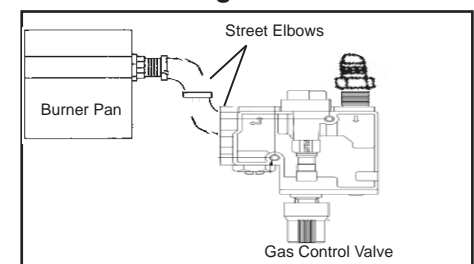

Figure 5
- E. Connect the two 3/8" Street Elbows (Part #16). Screw the 3/8" threads of the first elbow into the outlet of the second. Apply pipe compound to the male threads of the elbow and attach it to the control valve outlet. (See Figure 5)
- H. The valve assembly can be rotated to horizontal, and to allow it to rest on the fireplace floor. Simply rotate the entire valve assembly by turning the 3/8" Street Elbow (connected to burner orifice) with a wrench. (See Figure 5)